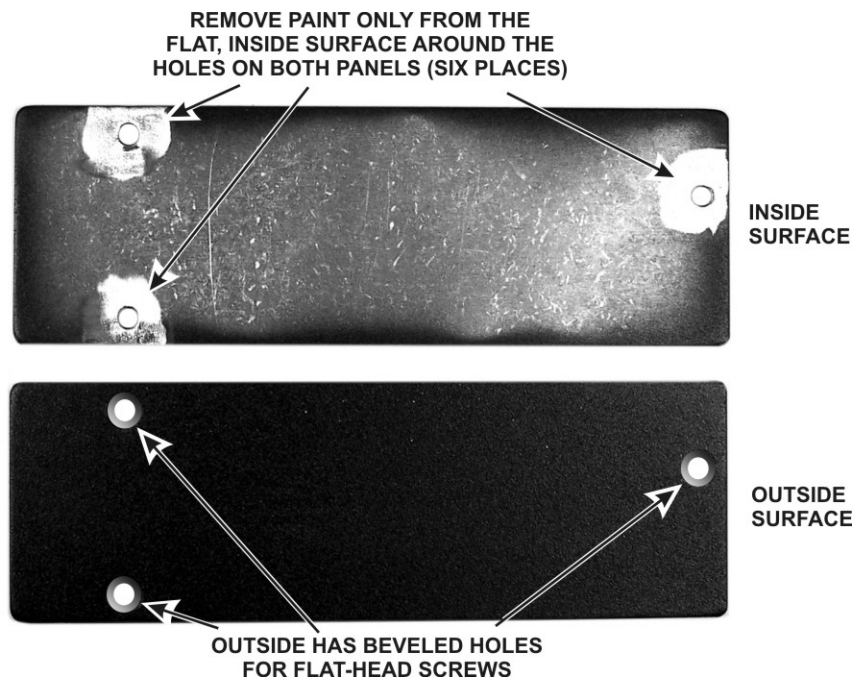

Figure 11. Preparing the Side Panels for Mounting.
- Clean the paint from around the holes on the inside (flat) side of the side panels as needed to ensure good electrical contact with the 2D fasteners when they are mounted. Note that there is a left and a right side panel. They are *not* interchangeable because of the beveled holes for flat-head mounting screws. **Be sure to scrape the paint only from the flat, inside surfaces as shown in Figure 11.**